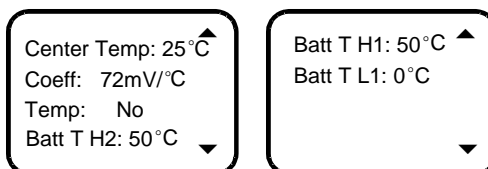

Figure 4-30 Temperature compensation settings screen
- At the BAT Settings screen, press ▲ or ▼ to select the 'Temp. Comp' menu, then press the ENT key to confirm. There are two screens, as shown in Figure 4-30.